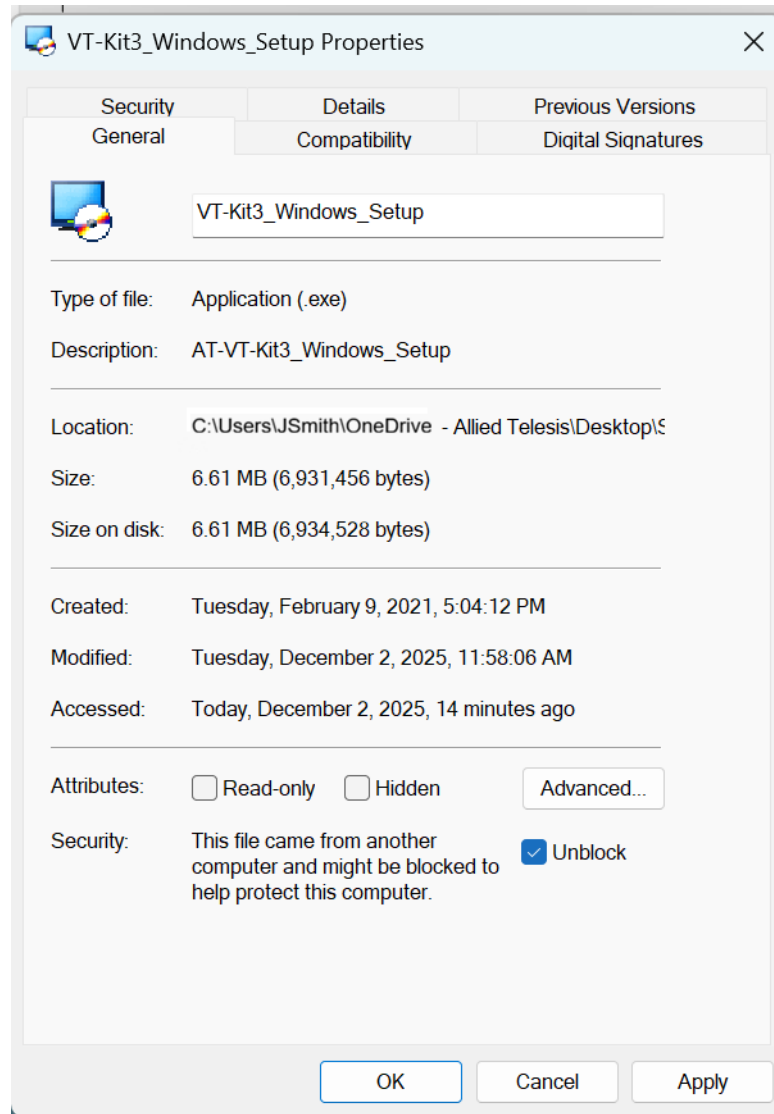

Figure 15. VT-Kit3_Windows_Setup Properties Window
2. Select **Properties** from the menu to display the VT-Kit3_Windows_Setup Properties window. Refer to Figure 15 on page 31.